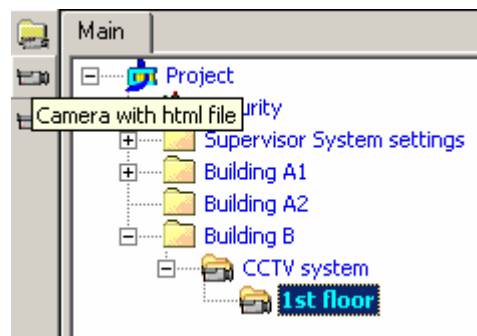
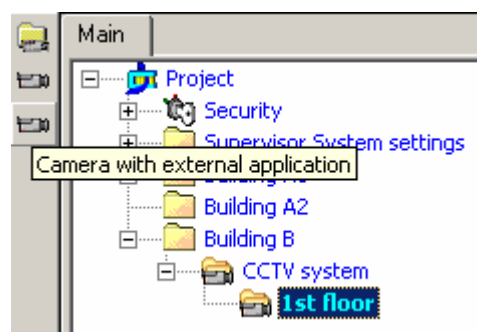

Fig 32 Selecting the icon for adding a device with a web-based viewer
Fig 33 Selecting the icon for adding a device with an application viewer
3. Add a new device, selecting either the unit with HTML-based viewer (Fig 32) or the one with installed application viewer (Fig 33).